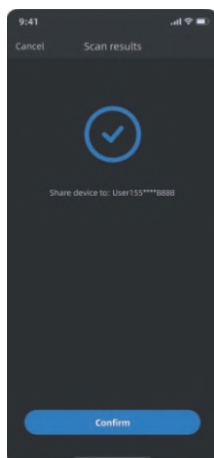

Figure3
3)Figure 3: When there is only one device under your name, click "**Confirm**" to complete the sharing;If it fails, you can follow the prompts to share again.